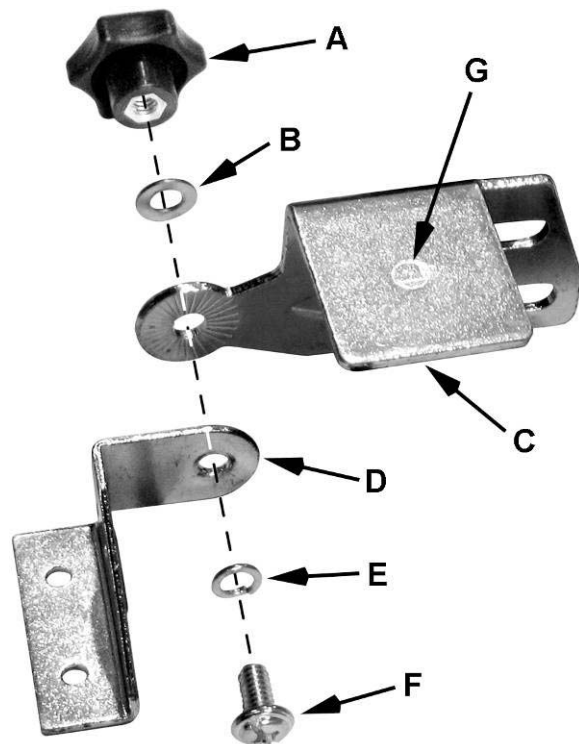

Figure 1
- 2 Brackets (D) (see Note)
- 2 Lock Knobs (A)
- 2 Spark Guards (C) (see Note)
- 2 1/4" x 1/2" Screws (F)
- 2 1/4" Flat Washers (B)
- 2 1/4" Lock Washers (E)
Note: Brackets (D) and spark guards (C) are marked L (G, Fig. 1) for left side assembly and R for right side assembly.
1. Assemble the left spark guard and eye shield mounting bracket using Figure 1 as a guide. Make sure the spark guard and bracket is marked L.
Note: There is a *left* and a *right* tool rest. Refer to Figure 1 to ensure that you install them correctly.